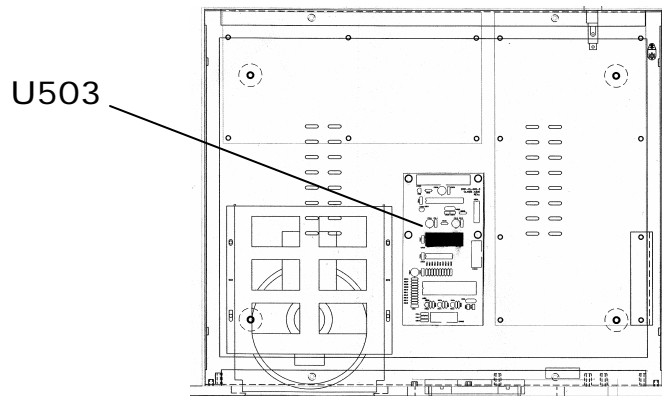

Figure 1.
- 3- Locate EPROM as indicated in figure 1. The component identifier is "U503."